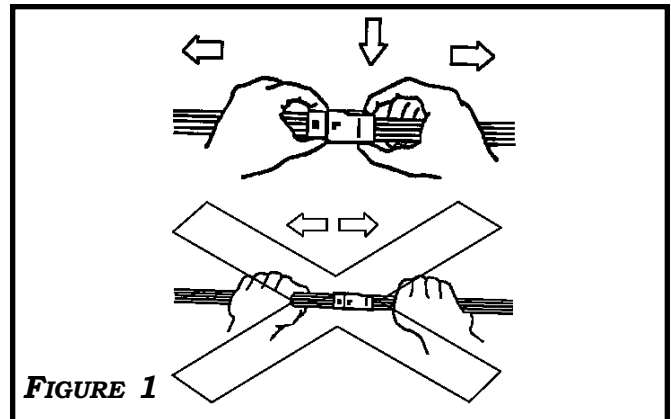

FIGURE 1
- A. WHEN DISCONNECTING HARNESES, HOLD CONNECTOR AND PULL THE LOCK UPWARD WHILE PULLING HARNESES APART. **FIGURE 1**